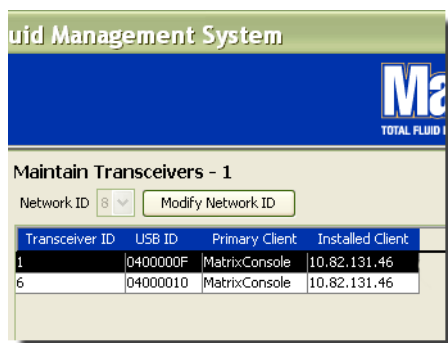

FIG. 92
- The updated Primary Client Profile displays in the Primary Client field as shown in FIG. 92.
5. The Fluid information displays on the Fluids screen as shown in FIG. 92.